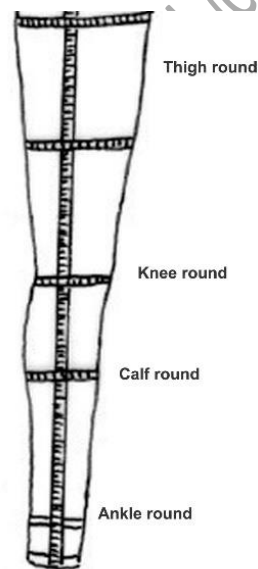

Fig.4.5: Ladies leg (circumference) measurements
**Round thigh:** It is measured around the thigh in Fig.4.5
**Round knee:** To be measured by keeping the measuring tape on the round knee and then folding the leg (calf touches the thigh) to get the correct measurement (Fig.4.5)
**Round calf:** It is measured around the fullest part of calf in Fig.4.5
**Round ankle:** It is measured around the ankle in Fig.4.5
Pant length is measured from waist to ankle along with side of the body (Fig.4.5)